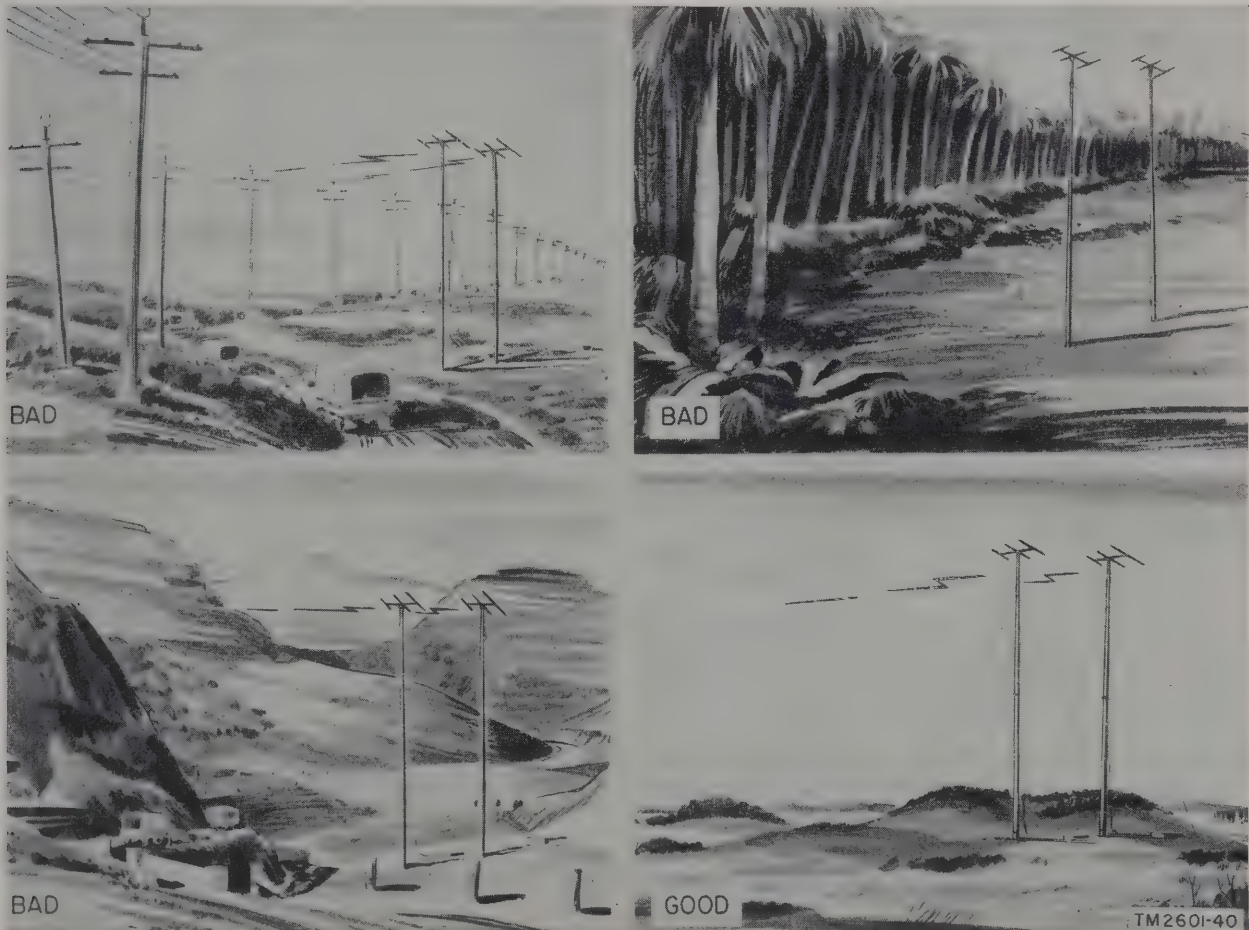

Figure 46. Selecting an antenna location.
52. Siting (fig. 46)
- (1) The floor must be capable of sustaining the weight of the equipment in a level position without vibration, or the equipment may be set on dry ground.
- (2) Sufficient space must be available for possible repair work and for door swing as explained in (4) below.
- (3) There must be sufficient ceiling height for the radio equipment and any associated telephone, ringing, carrier, or telegraph equipment.
- (4) Sufficient space may be allowed behind the equipment to run power cords and excess cabling, and so that auxiliary equipment doors may be opened. Sufficient space must also be provided in front of the equipment so that it is possible to operate and adjust the transmitter and receiver. Except for these limitations, the equipment may be located anywhere near the antenna location and power connections. If it is set up in the open, the case fronts should be protected during bad weather.
- (5) Adequate lighting for day and night operation should be provided. Position the equipments so that the panel designations may be read easily by the operating personnel. Artificial lighting may be accomplished with light bulbs so placed that the light falls directly on the panel. A portable drop lamp and extension cord (included in some accessory kits) are useful for operating and maintenance personnel.
c. **GENERAL.** Installation and operation of these radio sets may vary considerably with the type of service required. The principles and considerations outlined in paragraphs 52 through 60 are important for any type of system and must be followed for satisfactory operation. For purposes of clarity, concealment features are not shown in figure 46. However, all necessary precautions must be taken. Refer to FM 5-20 and TM 5-267 for camouflage instructions.